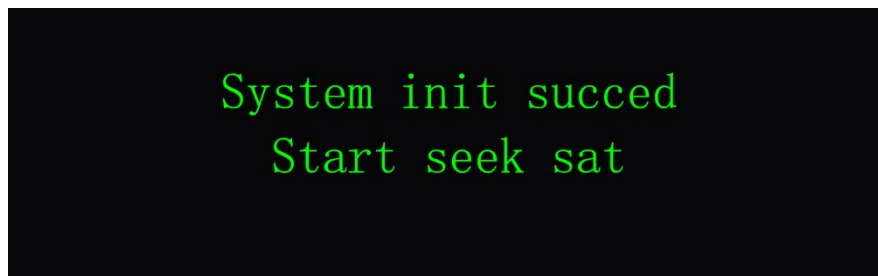

Figure 5-12 The Prompt of Alignment
- (1) When the Terminal is used for the initial time, the 'App' for Terminal Control should be used first, to set up the satellite related parameters. If the Terminal has the polarization switch function, please use the App to switch the polarization mode. Please see the operational instructions in section 7.
- (2) The 'App' for Terminal Control should also be used if it is necessary to select a different satellite. Please see the operational instructions in section 7.
8. When the Terminal is ready to align with the satellite, as shown in Figure 5-12.